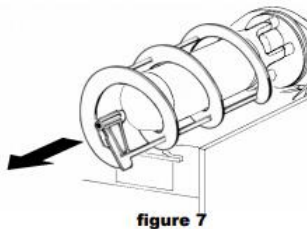
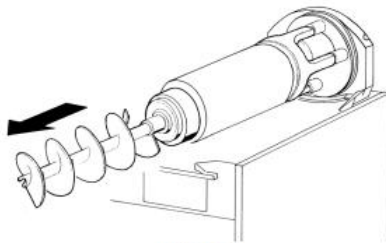

figure 7
figure 8
- 3 Slide the outer spiral out (see figure 7) and the auger (see figure 8).